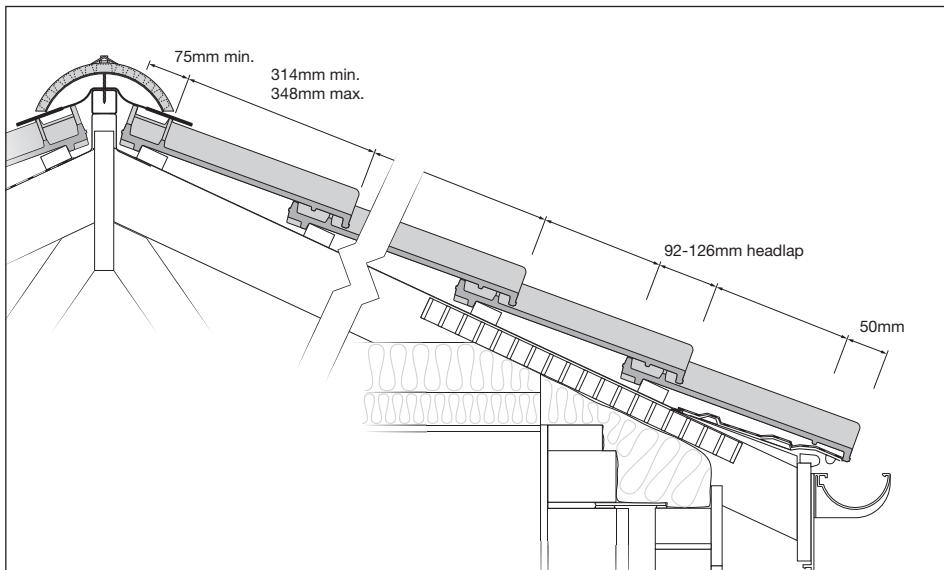

Fig. 40 – Melodie eaves to ridge setting out
- 1 The tile battens should be set out at a maximum spacing of 348mm to ensure a minimum headlap of 92mm. Melodie tiles have a built in head lock adjustment which allows the gauge to be reduced within the range 348 - 314mm (Fig. 40).